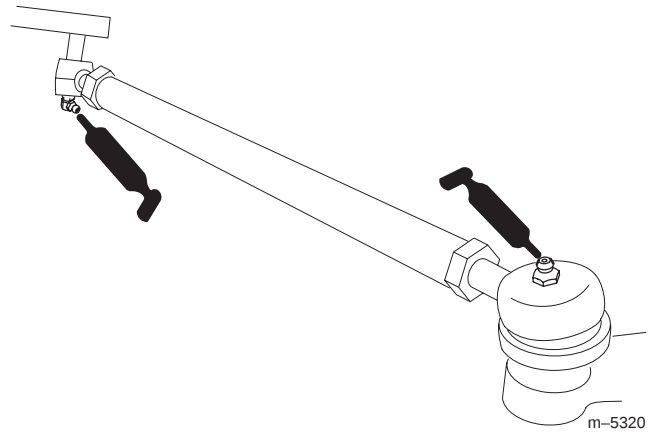

Figure 19
The grease fitting locations are at the tie rod ends (4) (Fig. 19) and the king pins (2) (Fig. 20).